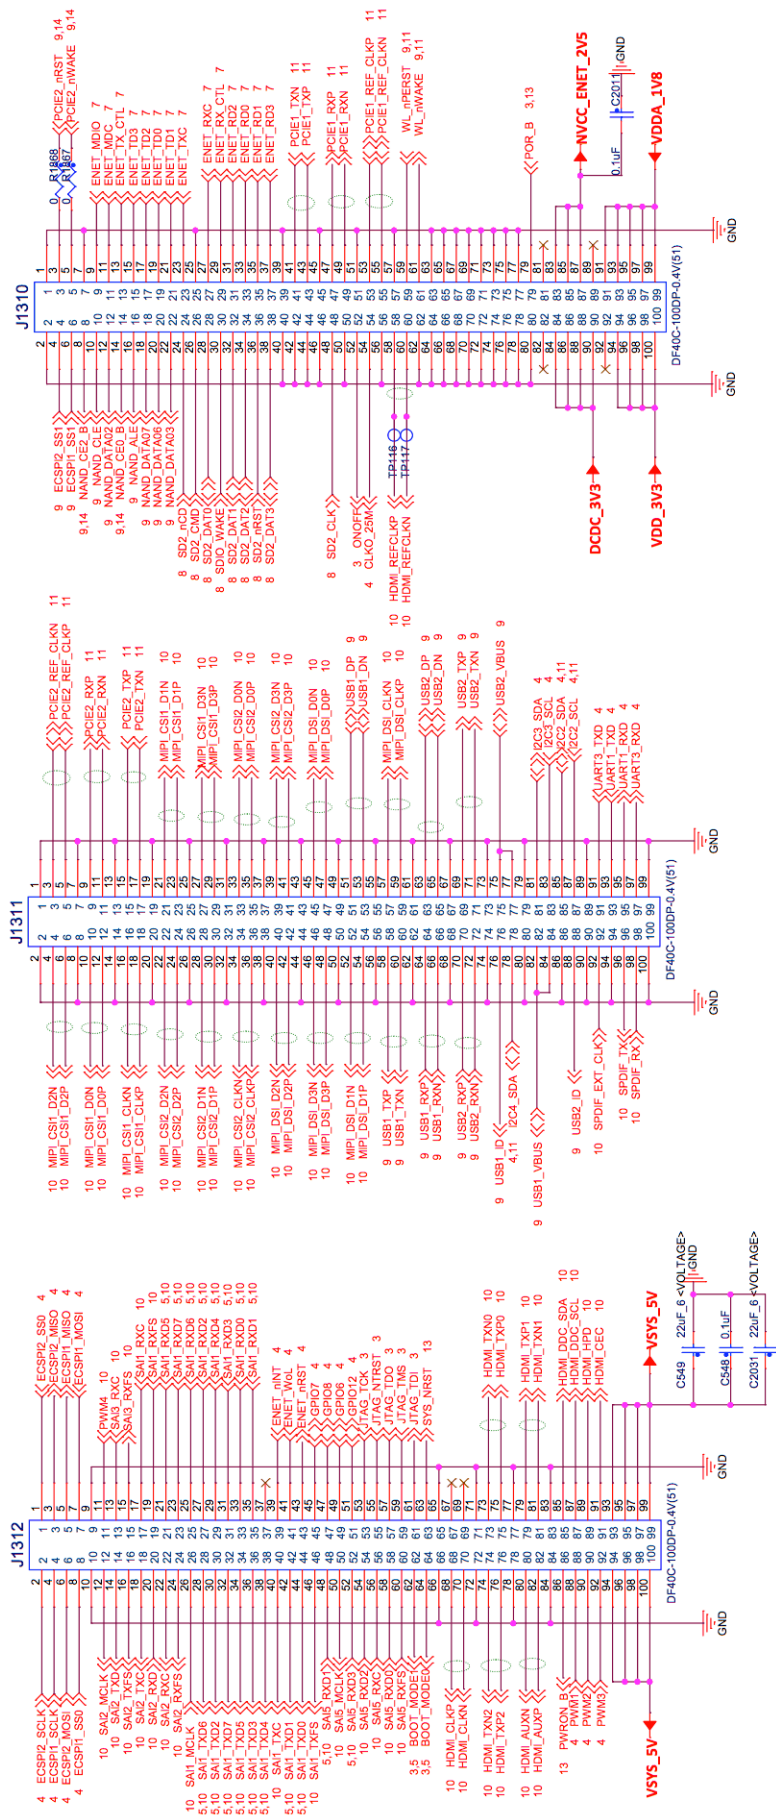

Figure 6. SoM connector schematic
**Caution:** The signal directions in figure 6 are not all accurate. Instead refer to the "type" of each pin in the tables from the Peripheral interfaces section.